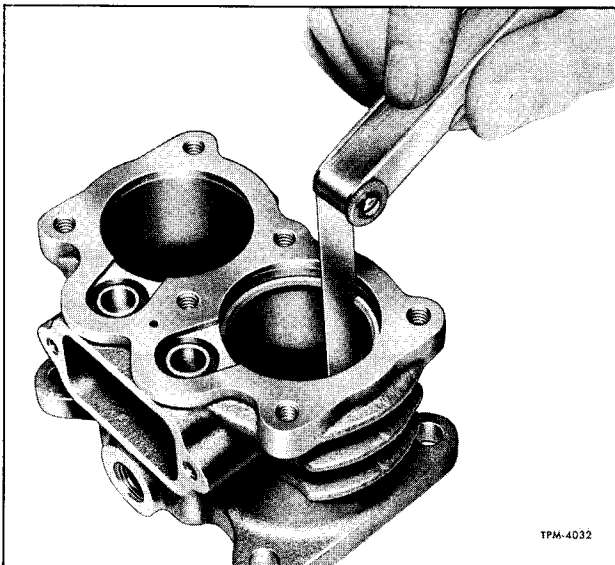

Figure 12—Measuring Piston Ring Gap
10. Piston Rings (Fig. 12). Check fit of piston rings in ring grooves, and check ring gap with ring in cylinder bore. Clearance between rings and